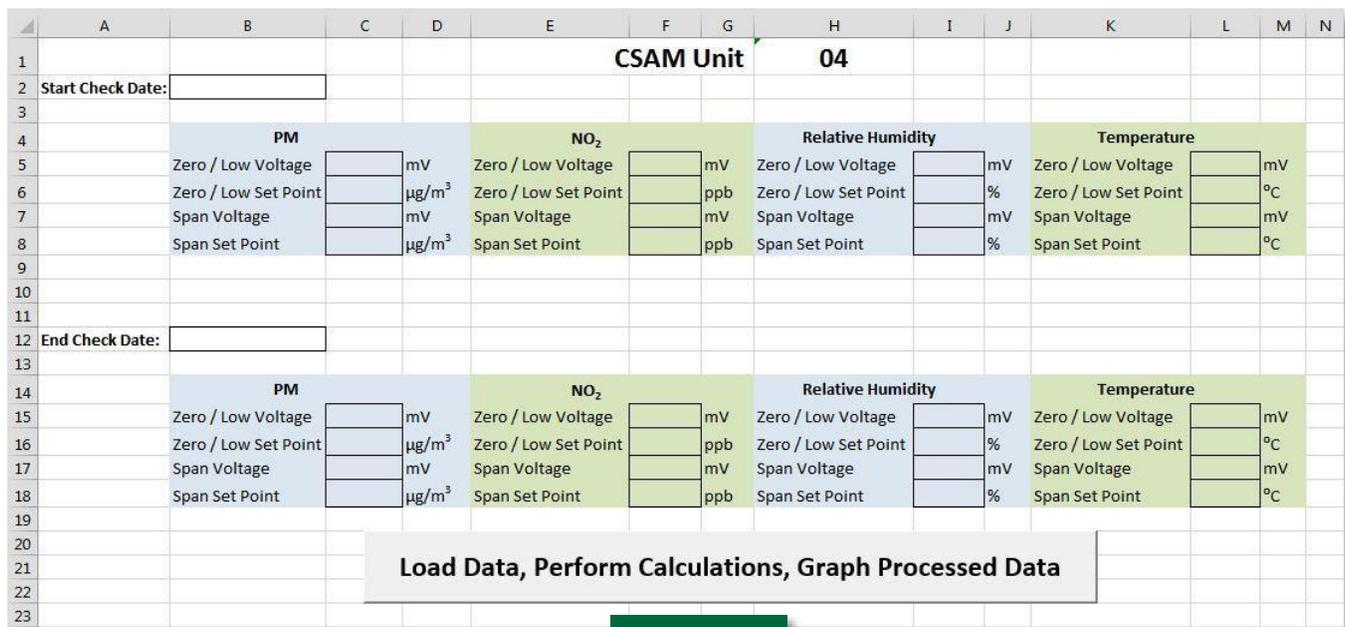

Figure 43
This procedure explains how to create a new Excel spreadsheet for processing and interpreting your collected data. A CD with a Microsoft Excel macro-enabled spreadsheet, **CSAM Data Analysis [Serial No. XX].xlsm**, accompanies each CSAM (Figure 43). This spreadsheet was created specifically for processing field data relative to the performance-check data, which allows you to assess the quality and usability of the collected data. The CSAM unit's two-digit serial number is part of the file name so that the spreadsheet can easily be matched with its associated unit if more than one CSAM is deployed in the field.
6. Open the **CSAM Data Analysis.xlsm** macro-enabled Excel spreadsheet (Figure 43).